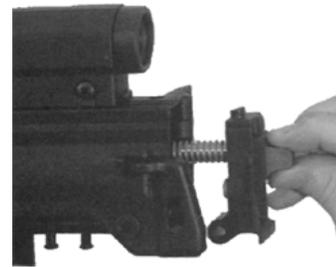

Fig. 37: Remove backplate
- Remove the backplate and the recoil spring to the rear. (Fig. 37)